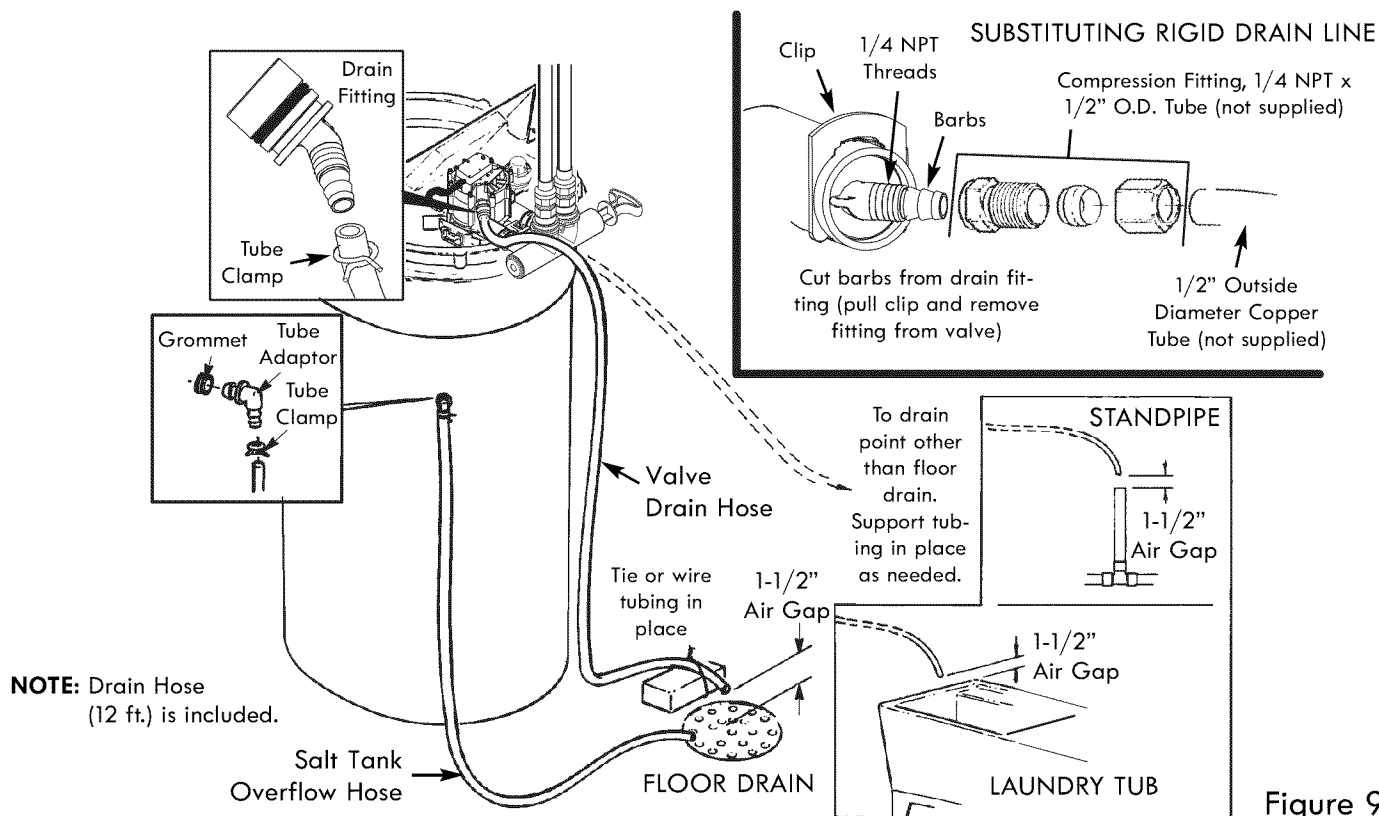

Figure 9
Take a length of 3/8" inside diameter drain tubing (supplied) and attach one end to the drain fitting (see Fig. 9). Use a tube clamp from the parts bag to hold it in place. Put the other end of the tubing over a floor drain, into a laundry tub, standpipe, or other suitable drain. Check your local codes.
1. Locate the rubber grommet, adaptor elbow and tube clamp (see Fig. 9) that are in the parts bag.
**IMPORTANT:** Overflow water must run down by gravity through the tubing. Do not raise the tubing higher than the adaptor (see Fig. 9).